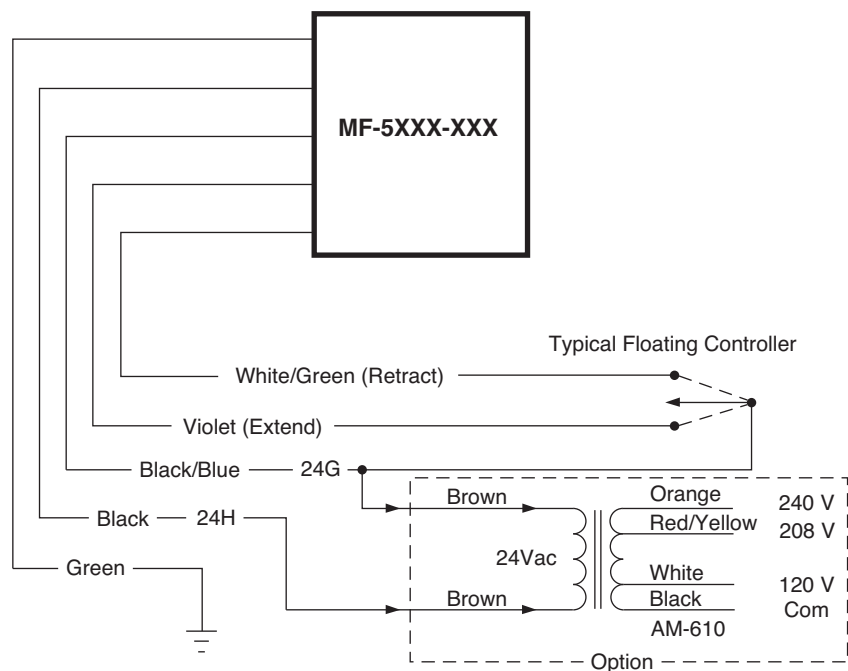
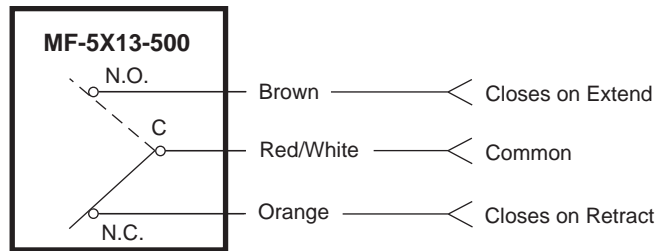

Figure-1 Basic Wiring Diagram.
Figure-3 Auxiliary Switch for MF-5X13-500 Models.
**SPDT Floating Control Output or 2 SPST Control Contacts**, Minimum rating of 1A @ 24 Vac, inductive load. Refer to Figure-1.
Figure-1 illustrates a typical wiring diagram using an MF-5XXX-XXX and a transformer kit (AM-610). Two single-pole, single-throw contacts can also be used to control the actuator position.
The auxiliary (aux) switch can be adjusted by turning the aux. switch screw to change the switch action through the stroke of the unit (refer to Figure-3). The factory setting has the N.C. contact made at the retracted position.
3. Make the required connections. Refer to Figure-1 for a wiring diagram of a typical application. Refer to Figure-2 for a wiring diagram of the 18K feedback potentiometer for the MF-55X3 model series actuators. Refer to Figure-3 for a wiring diagram of the auxiliary switch for MF-5X13-500 model actuators.